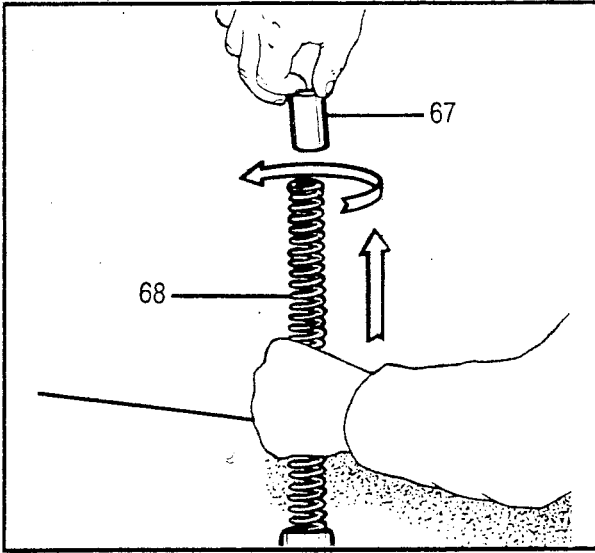

Figure 5-13. Fork Spring/Pre-load Sleeve Removal
- See Figure 5-13. Remove the pre-load spacer (67) and spring (68).